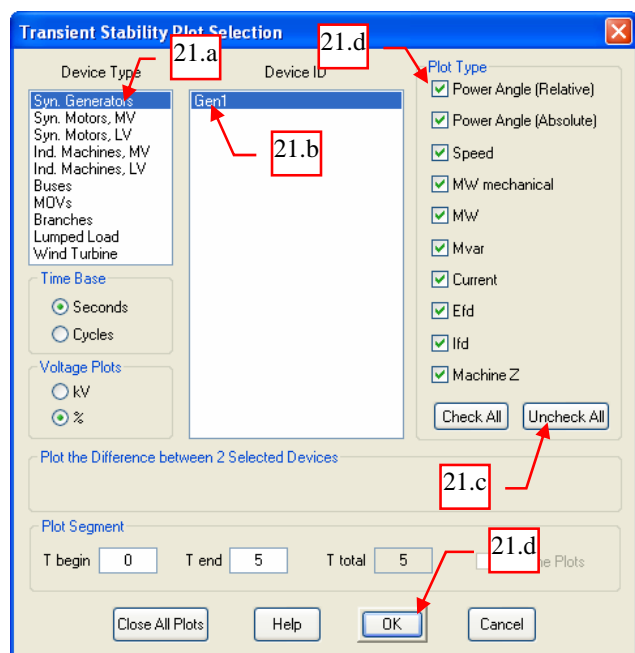

Fig. 14
21. On the “Transient Stability Plot Selection” dialog box, do the following (See Fig. 14):